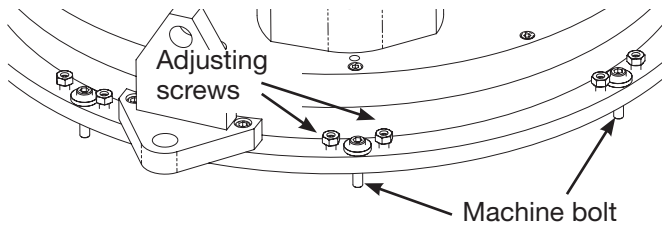

Figure 11: Mounting Bolt
6. Survey the flange and, if required, the adjustable screws can be used to level the machine parallel with the flange. See figure 11.